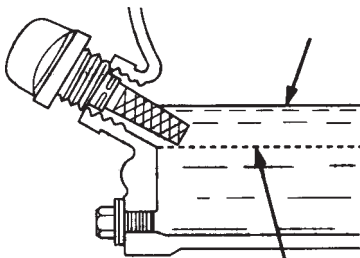

Figure 4. Engine Oil Dipstick (Oil Level)
4. If the oil level is low (Figure 4), fill to the edge of the oil filler hole with the recommended oil type (Table 4). Maximum oil capacity is 0.63 quarts (0.60 liters)